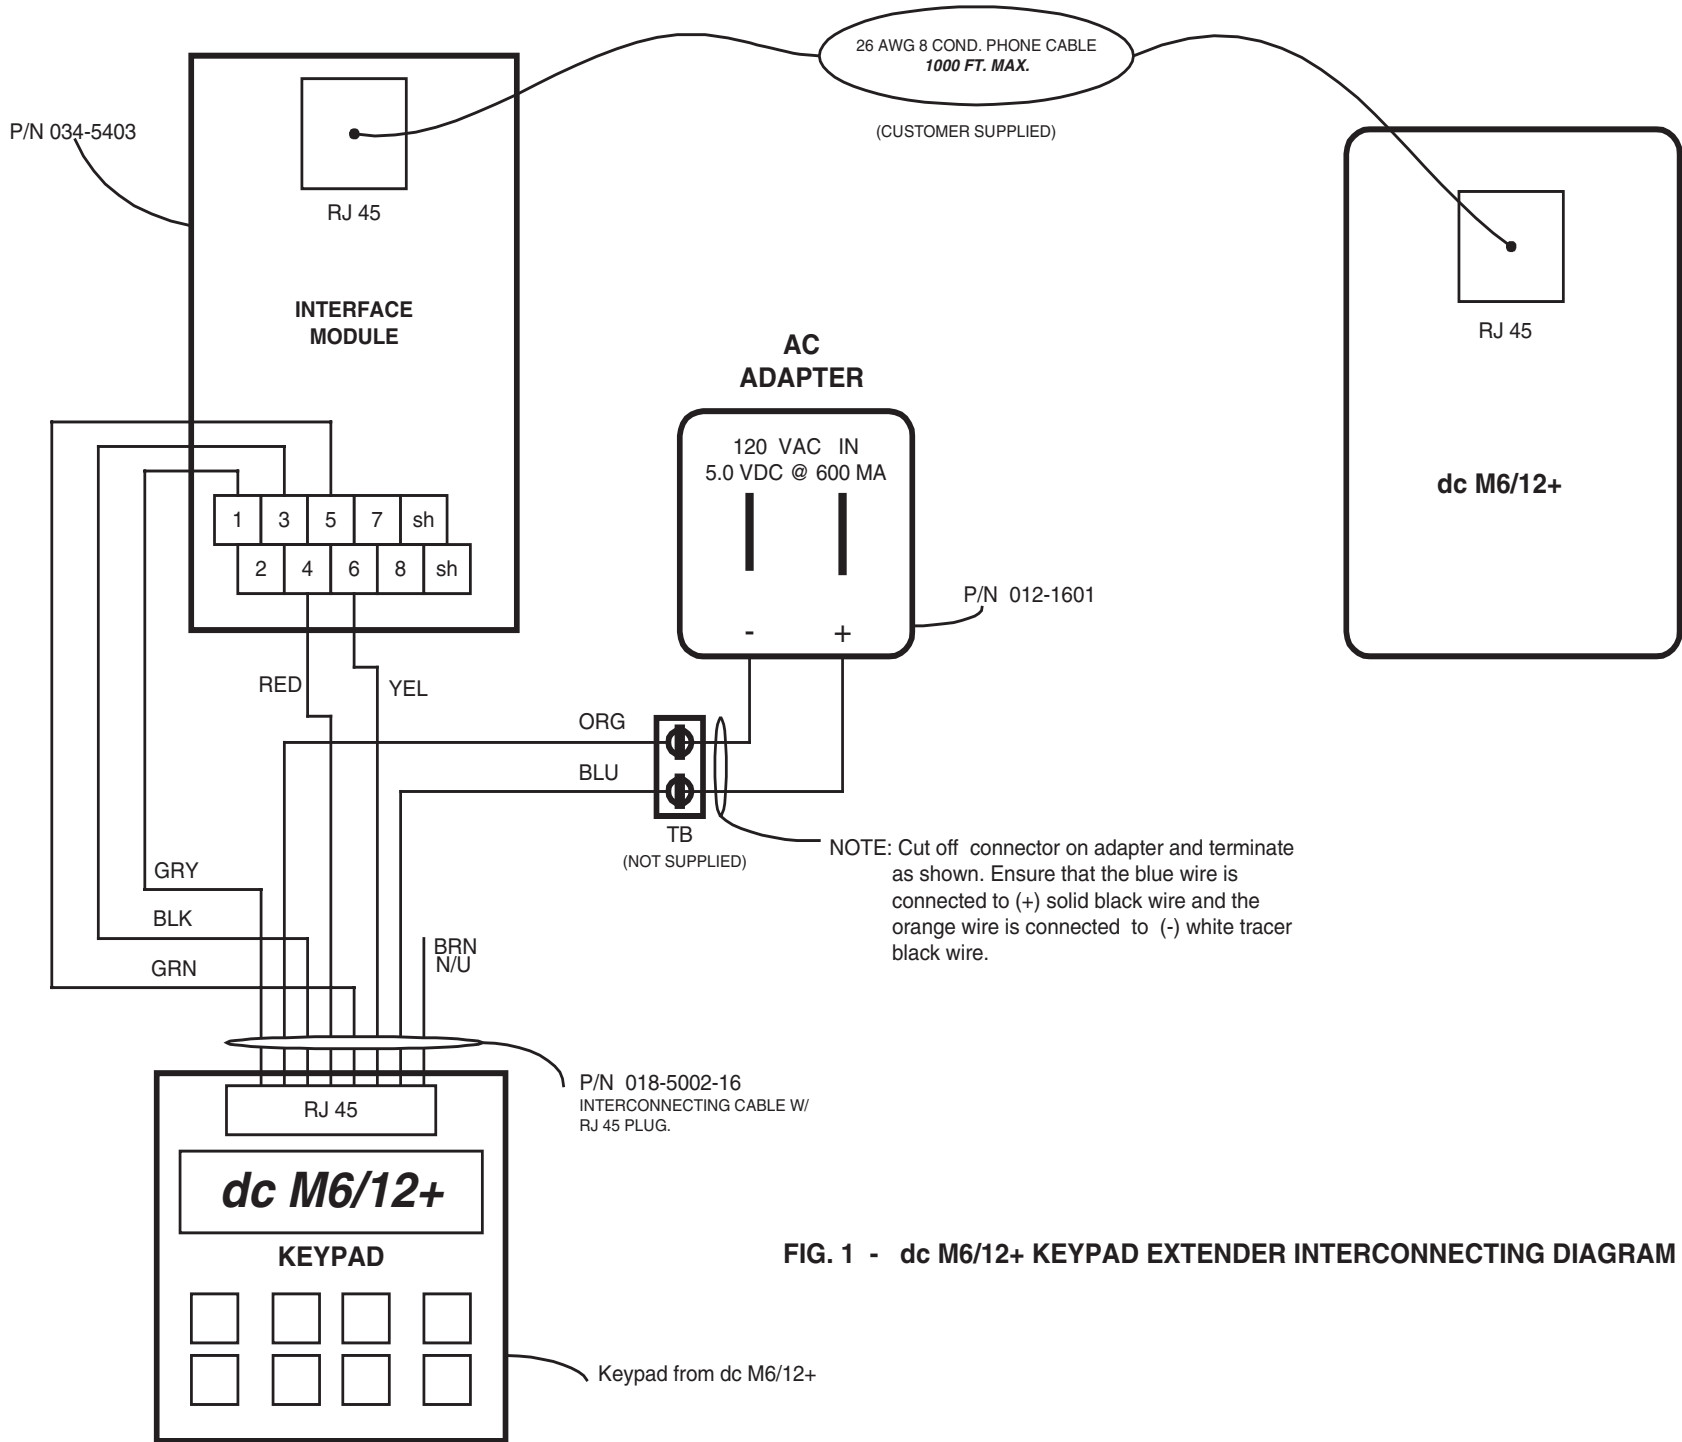

FIG. 1 - dc M6/12+ KEYPAD EXTENDER INTERCONNECTING DIAGRAM
REFERRING TO FIGURES 1 & 2A - 2D
- 3 - Mount the Interface Module and make connections as per Fig. 1 using the provided interconnecting cable. (NOTE: The interconnecting cable is 16 in. long so the proximity of the parts must be within that range.)
- 4 - Cut off the DC connector on the AC adapter and then connect the DC output to the keypad as shown using a customer provided terminal block. Ensure that the correct polarity of the adapter is applied as shown in Fig. 1 and then plug the adapter into a 120 VAC outlet.